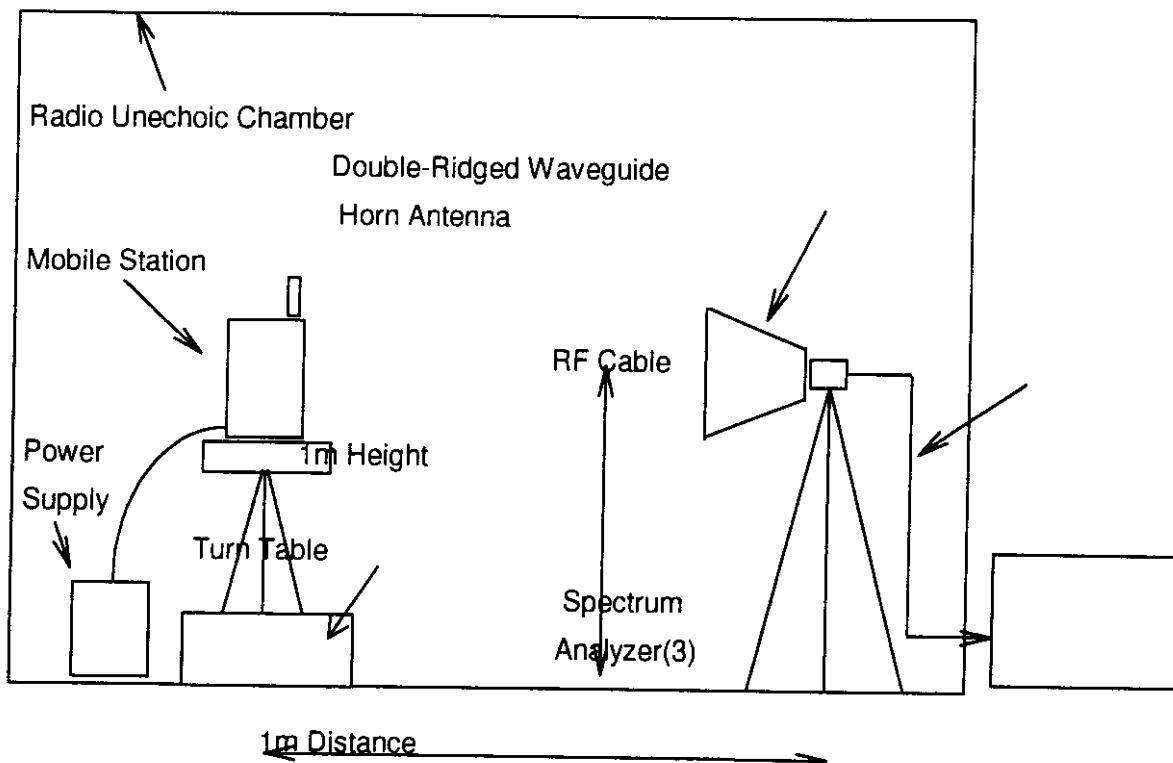

Figure 6.5.1 Test System of Field Strength of Spurious Emissions
Field strength of spurious emissions was measured with the test system as shown in Figure 6.5.1. Details of the test equipment are listed in Table 6.7.1. The measurement were made per TIA/EIA/IS-137-A.
1. Set the mobile station, horn antenna and other equipment as shown as figure 6.5.1. The measurements are taken with the antenna radiating (extended).